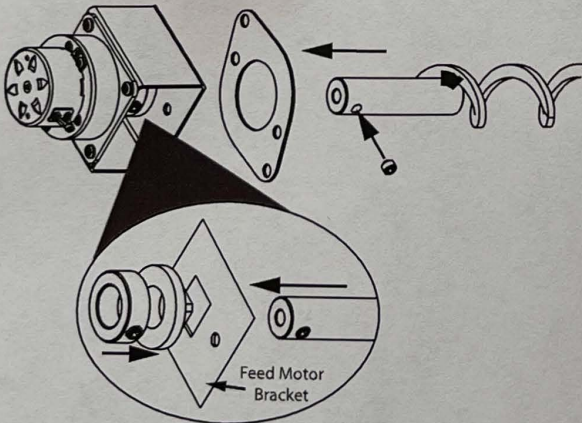

Figure 8
8. Slide new Feed Motor Spring (C1) through the Feed Motor Gasket (C2), feed motor bracket, feed motor plastic bearing, feed motor collar and onto the shaft of the feed motor (Figure 8).
10. Slide feed motor bearing down into bracket along with feed motor collar exposing the 5/16-18 x 1/4 inch Set Screw (C3); tighten set screw (Figure 8).